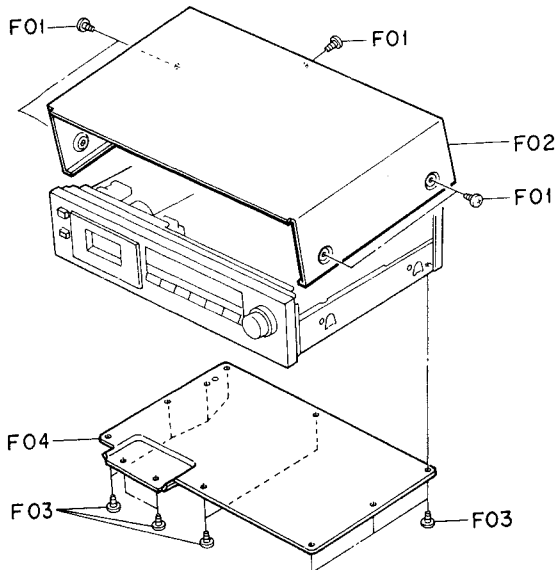

Fig. 2.1
2.1. Top Cover Ass'y and Bottom Cover Ass'y Refer to Fig. 2.1.